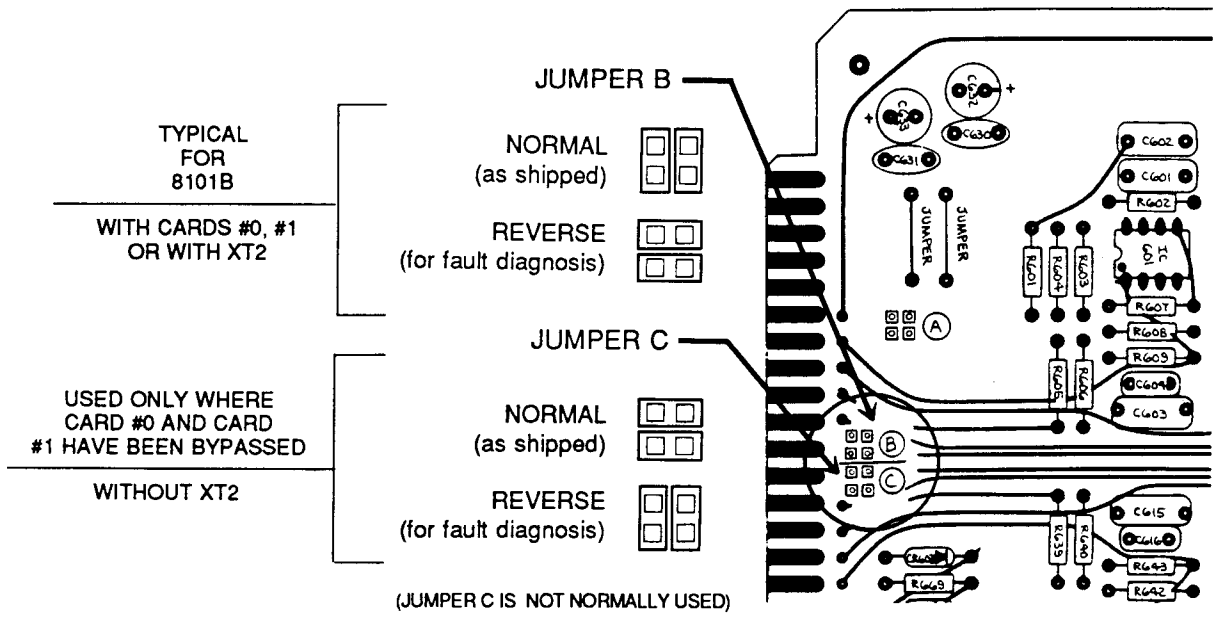

Fig. 5-1: Test Jumper, Card #6
5-6	Fig. 5-1: Test Jumper, Card #6
- C  Remove jumper B and place it on jumper C in the NORMAL position. See Fig. 5-1 on page 5-6.
See Fig. 5-1. If the problem moves from one channel to the other, Card #6 is probably faulty. The "Field Audit of Performance" on page 4-11 may provide additional information — excessive THD at 3kHz in the OPERATE mode distortion test can be caused by a failure in the high-frequency limiter on Card #6.